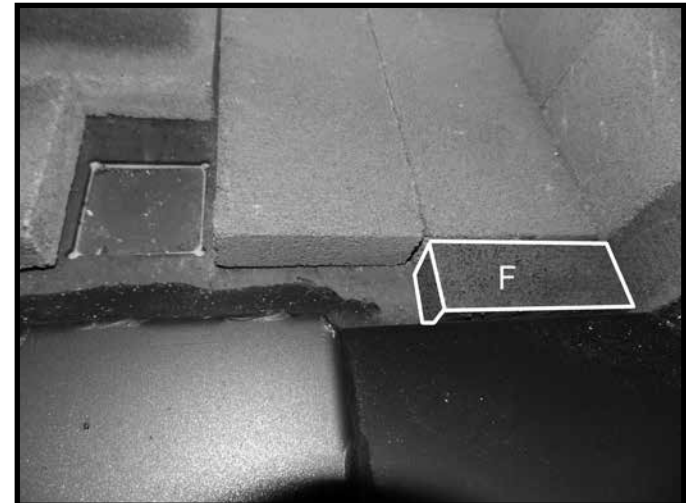
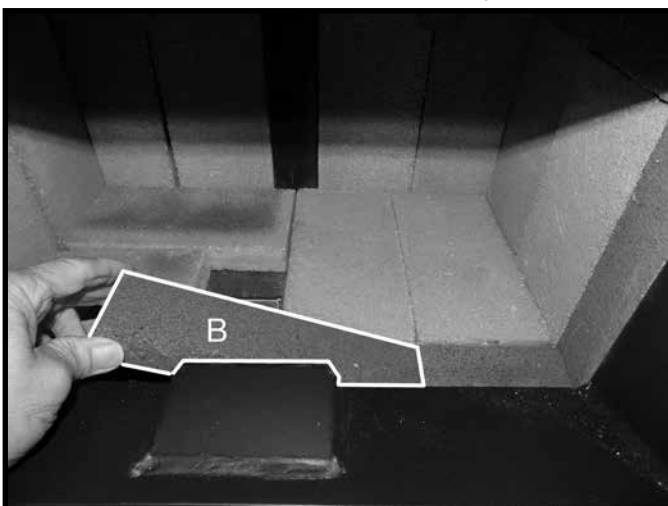
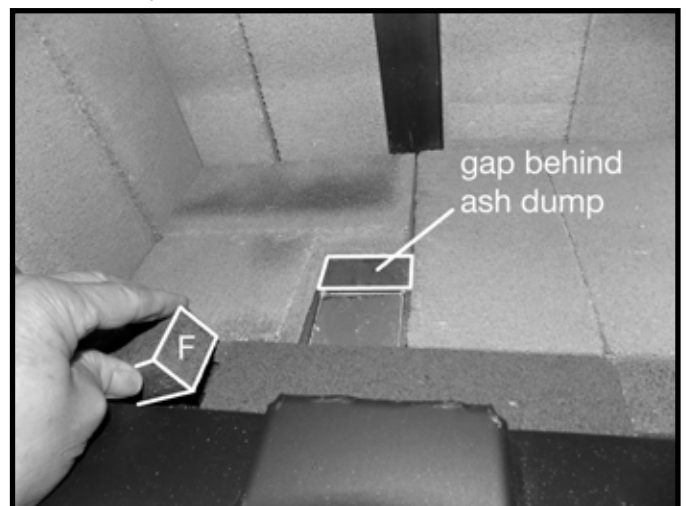

Figure 27. Short, narrow brick installed in front row.
Figure 28. Long, narrow center brick in front row.
Figure 29. Final short, narrow brick in front row.
10. Place a short narrow "F" brick against the front right side of the floor (Figure 27) followed by a longer "B" brick in the center of the front row (Figure 28). Finish with the last "F" brick placed against the left side front row (Figure 29).